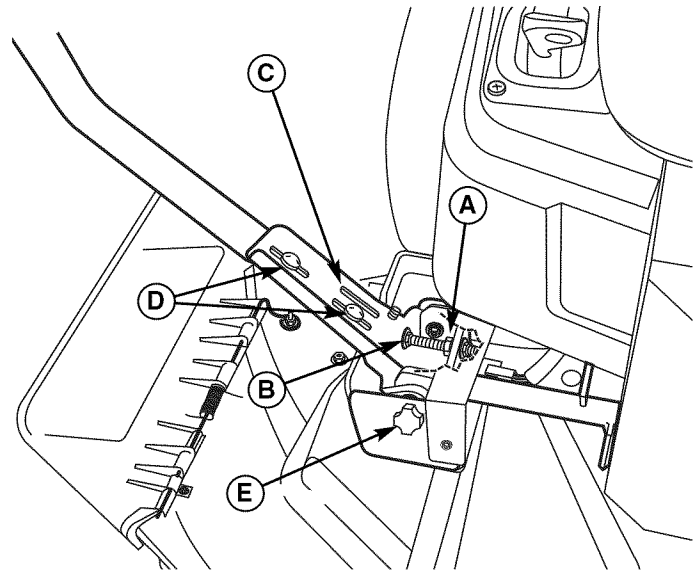

Figure 34. Control Lever Adjustment
4. Check the spark plug gap. It should be .030" (see Figure 34).
**To Adjust Control Lever Height:** Pull the levers in across the operator's lap to their DRIVE positions. Loosen the mount bolts (D, Figure 34) and raise or lower the levers to the desired position. Tighten the mounting bolts.
**To Adjust Control Lever End Gap:** The control lever end gap should be adjusted so that the levers do not contact each other when placed in DRIVE positions. Loosen the jam nut (A, Figure 34) and adjust the length of the carriage bolt (B) so that the levers do not contact each other. Repeat on the opposite side. Tighten the jam nut (A) to lock the carriage bolt in position.
**To Adjust Operator Clearance:** The space between the operator and the control levers can be increased by removing the lower mounting bolt (D, Figure 34), pivoting the lever forward, and reinstalling the capscrew through the control lever and forward slot (C). Repeat with the other ground speed lever.
If the rider veers to the right or left when the ground speed control levers are in the maximum forward position, the top speed of the right lever can be balanced by turning the adjustment knob (E, Figure 34). Loosen the jam nut and turn the knob COUNTERCLOCKWISE to increase speed or CLOCKWISE to decrease speed. Tighten the jam nut when complete.